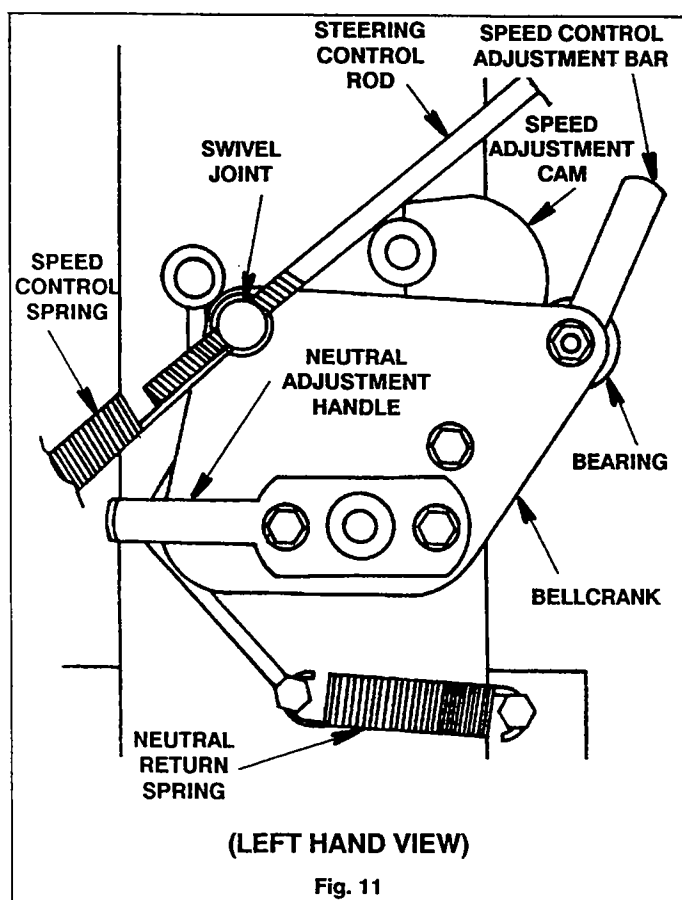

Fig. 11
2. Disconnect steering control rod from handle grip and also disconnect swivel joint and speed control spring from control bellcrank (see fig. 11).
2. Loosen nut on speed control adjustment bar and position bar, so that the bearing is just touching the speed adjustment cam (see fig. 11). Tighten nut.